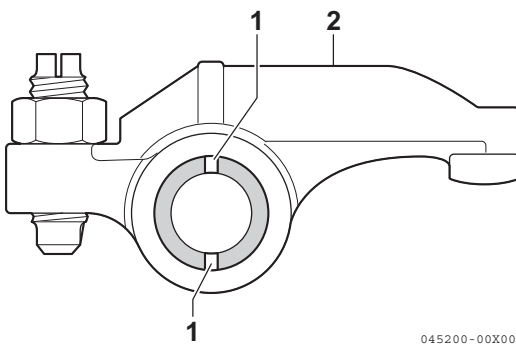

Figure 6-34
Ensure the lubrication holes (**Figure 6-34, (1)**) in the rocker arm shaft are oriented correctly with respect to the rocker arms (**Figure 6-34, (2)**).